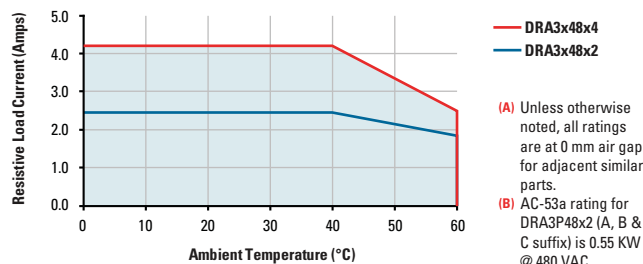

fig. 2 Derating Curve for 3 Phase & Motor Reversing contactor.
- If multiple units are installed be sure to follow derating curve (fig. 2).